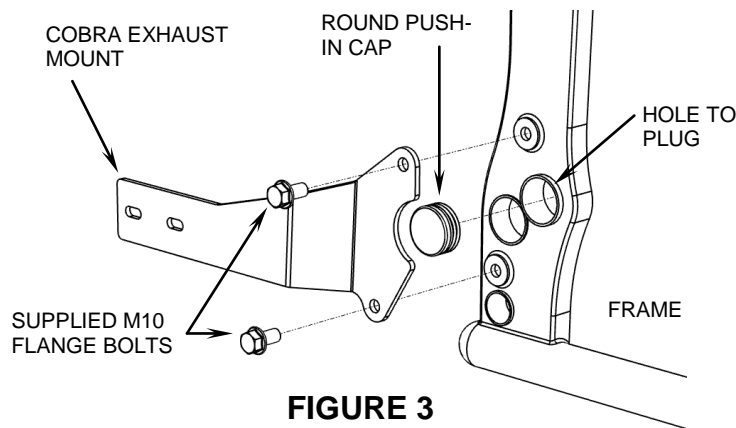

FIGURE 3
8. Install the exhaust mount bracket using the (2) supplied M10 flange bolts. Use a rubber mallet to tap the round push-in cap into the 1½" hole in the frame. See Figure 3.